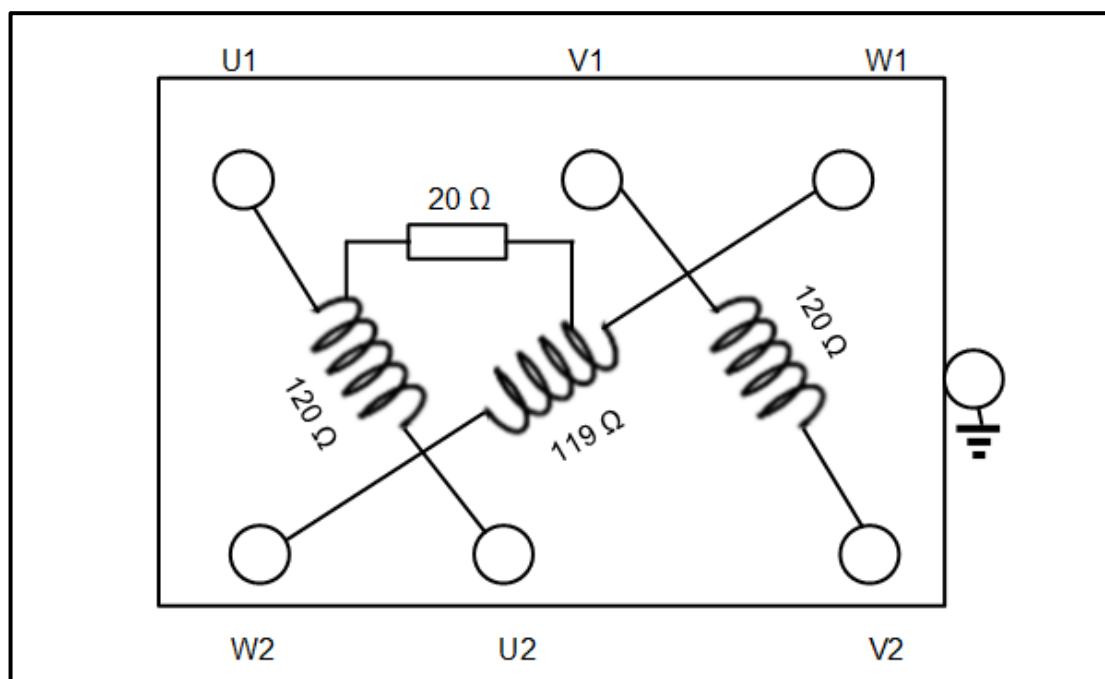

FIGURE 4.7: TERMINAL BOX
- 4.7 FIGURE 4.7 below shows the terminal box of a three-phase induction motor. The resistance measured between the terminals is shown in the diagram. Explain, with reasons, if the motor is operational.